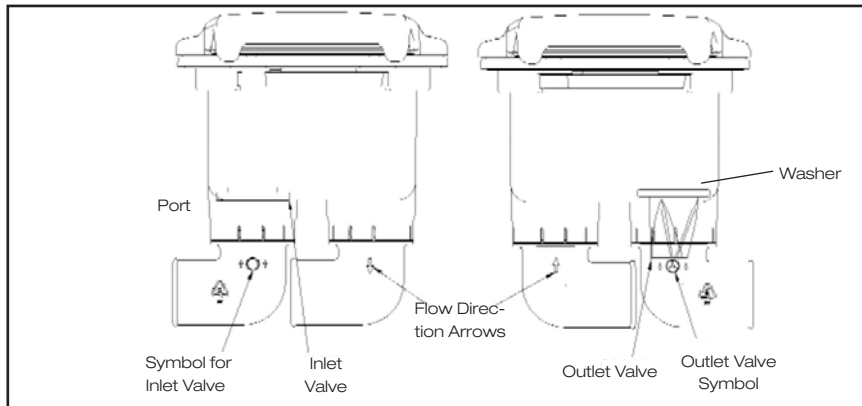

Fig.7 Valves/ Elbow Combination
Both inlet and outlet elbows can be attached to either port. It is very important that the correct valve is installed with the correct port (see fig. 7). See icon on side of each port to confirm the correct valve has been installed with correct port (flat valve on inlet and tricuspid valve on outlet).
4. It is very important that the elbows are re-installed with the correct valves inside the correct ports (see fig 7).